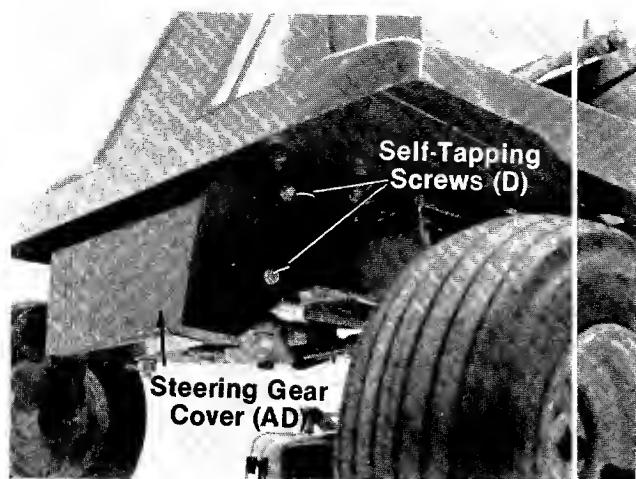

FIGURE 10.
15. Install the **steering gear cover (AD)** as shown in figure 10, to cover the underside of the steering mechanism. Secure with two **self-tapping screws (D)** on each side of the cover. Do not completely tighten any of these screws until all four of them are positioned correctly.
16. Press **steering wheel cap (F)** in place in the center of the steering wheel.